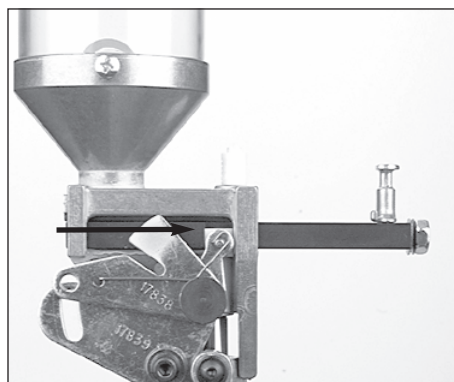

FIG 40
For the powder bar to properly dispense a measured powder charge the powder bar must travel its full distance. To travel its full distance, the white cube must contact the powder measure body (see arrow FIG 40).
3. Raise the platform. Check to see how far the powder bar has traveled **FIG 40**.
5. Repeat step four until the powder bar travels its full distance **FIG 40**.